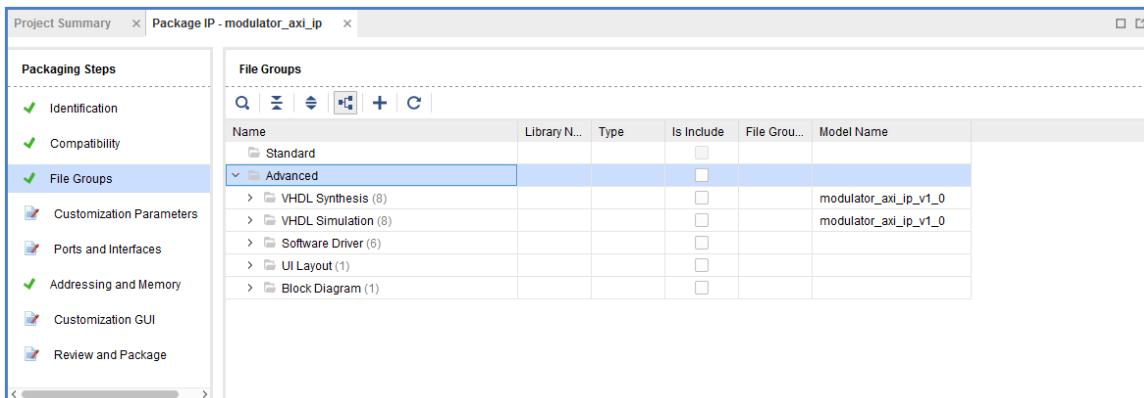

Figure 12.84: File Groups window
27. In the **Package IP - modulator_axi_ip** window, open File Groups section, and click **Merge changes from File Groups Wizard** link, see Figure 12.84.